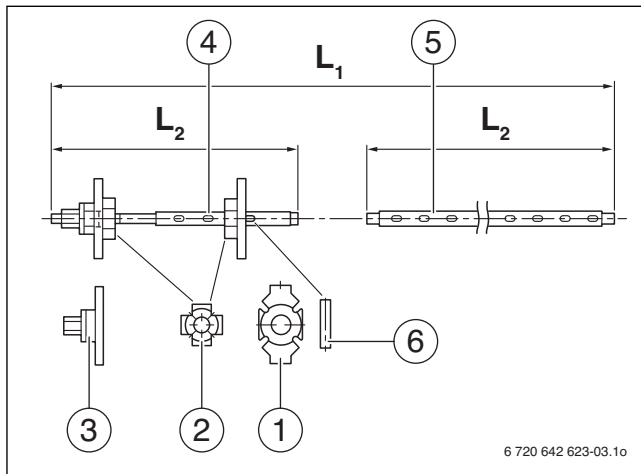

Fig. 4 Boiler assembly tool size 2.3
- Boiler assembly tool 2.3 (→ Fig. 4)